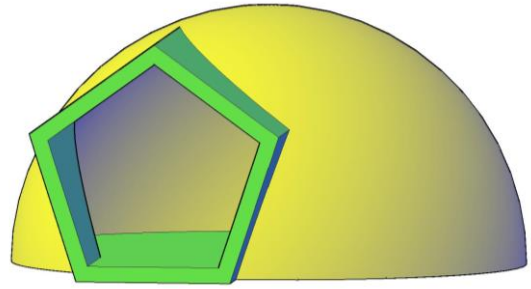

Figure 1a
1. An igloo-shaped doghouse is illustrated in Figure 1a. It consists of a hemisphere with an offset pentagonal doorway.